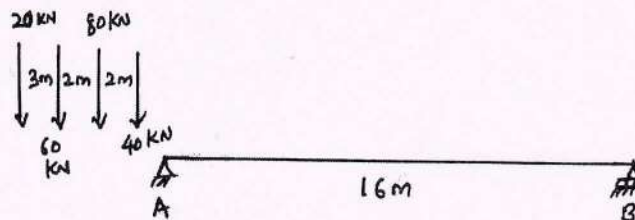

Fig Q10(a)
- 10 a. A train of concentrated loads shown in Fig Q10(a) move from left to right on a simply supported girder of span 16m. Determine absolute maximum bending moment developed in the beam.